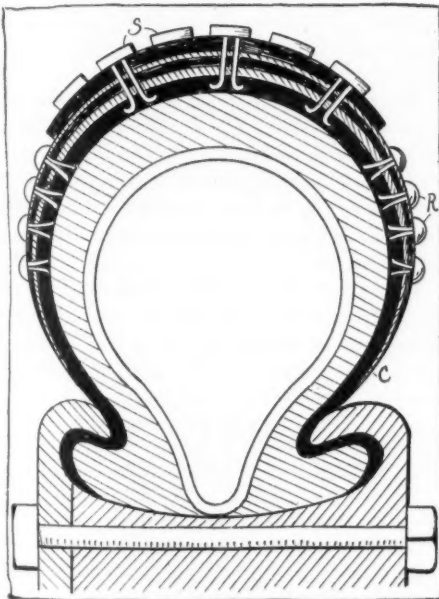

FIG. 17—BRIETSON TIRE TREAD
**O. A. Brietson**—The Brietson detachable tire tread, Fig. 17, is a combination leather and canvas covering C, entirely enclosing the outer casing and extending within the lips of the clincher rim, by which means it is held in place. The tread of this protector consists of many thicknesses and carries steel studs S to prevent skidding. At the sides are oval headed rivets R to prevent wear of the tire in ruts on the road. Although illustrated for use in conjunction with clincher tires, it is manufactured for use on Dunlop types as well.